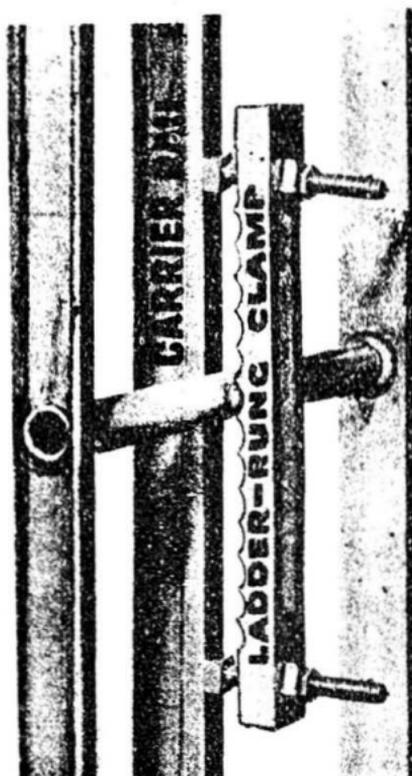

FIG. 4
- (a) Attach the carrier rail to ladder by use of ladder rung clamps provided with the rails. (Figure 4)